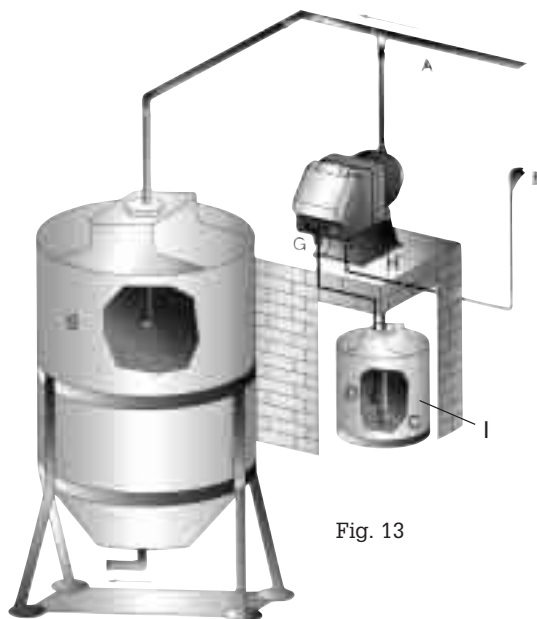

Fig. 13
7.2 - TYPICAL INSTALLATION (Fig.13)